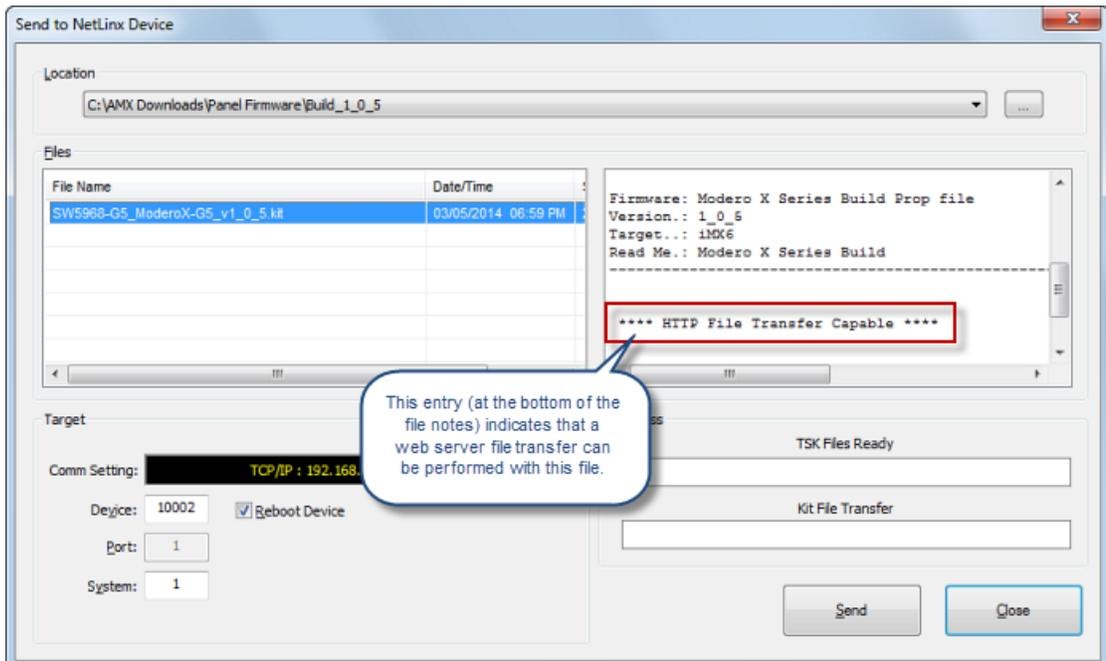

FIG. 31 NetLinx Studio v3.4 or higher - Send To NetLinx Device dialog - G5 Firmware file sample
Look for "**** HTTP File Transfer Capable ****" at the end of the file (see FIG. 31 on page 28).
5. In the *Files* window, click to select the G5 *.kit file to transfer (FIG. 31):